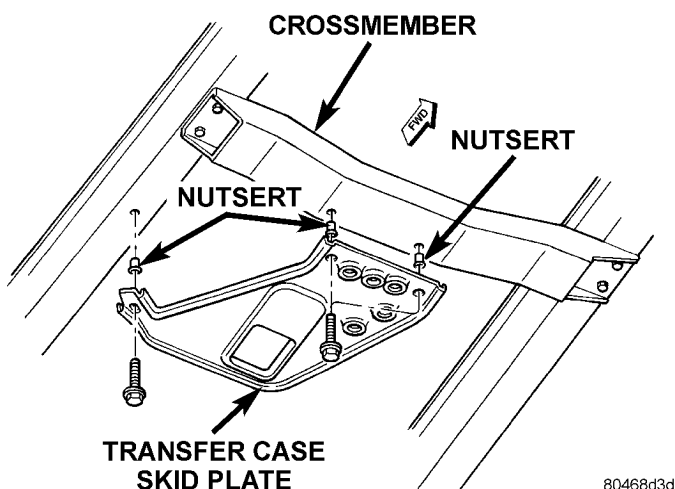

Fig. 3 Transfer Case Skid
- (6) Remove the plastic rivets at each front wheel well (Fig. 3).
- (7) Slide the fascia off of the retainer pegs at the side of the fender attach brackets. Using a small screwdriver, pull up on locating tangs under turn signal mounting location.
- (8) Remove the fascia from the vehicle.
REMOVAL AND INSTALLATION (Continued)**Fig. 3 Wheel Well Retainers****Fig. 4 Bumper Support Bracket****INSTALLATION**
- (1) Support skid plate.
- (2) Remove bolts that attach skid plate to transmission support crossmember and frame sill (Fig. 3).
- (3) Remove support and skid plate from vehicle.